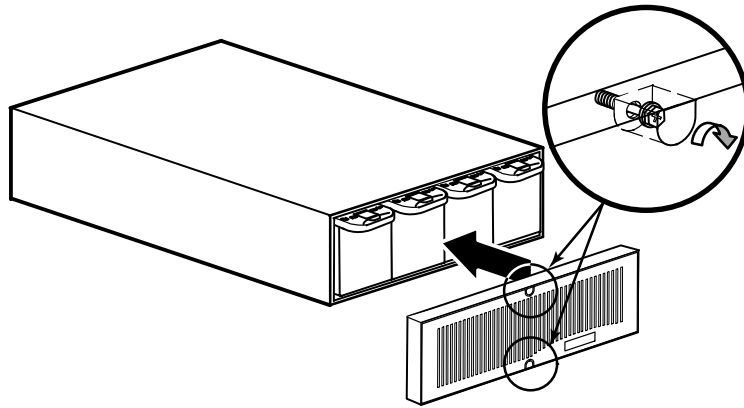

Figure 12. Replacing the EBM Front Cover
4. Replace the EBM front cover and tighten the two front cover screws (see Figure 12).